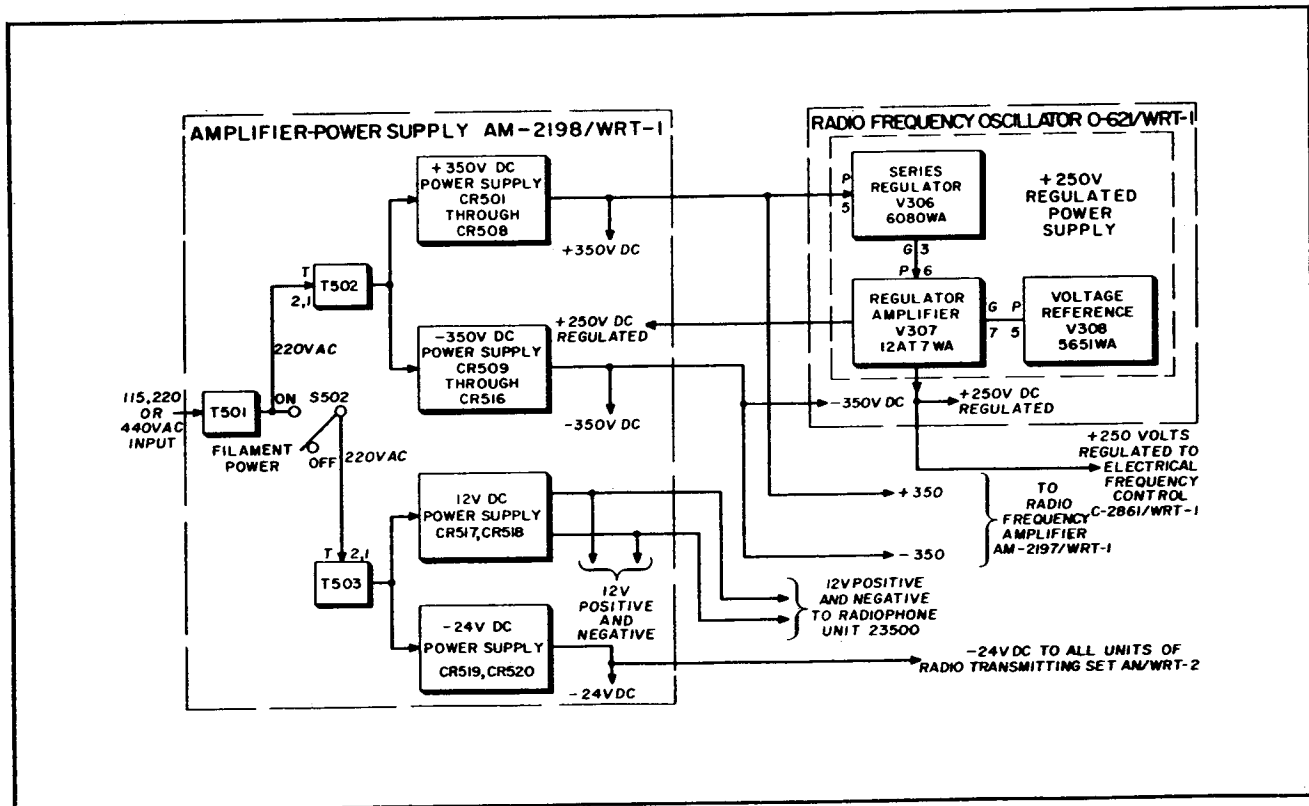

Figure 4-23. Low Voltage Power Supply, Functional Block Diagram
(1) The low voltage supply functional section provides all of the unregulated and regulated d-c voltages (excluding the power amplifier plate voltage) which are needed for proper operation of Radio Transmitting Set AN/WRT-1. A functional block diagram of the low voltage supply section is shown in figure 4-23.
(2) As shown in figure 4-23, the circuits of the +350, -350, -24, and 12-volt power supplies are located in the drawer containing Amplifier-Power Supply AM-2198/WRT-1. The circuits of the +250-volt regulator are located in the drawer containing Radio Frequency Oscillator O-621/WRT-1.
(3) The primary power input of 115, 220, or 440 volts a-c (determined by the ship supply) is applied to the primary winding of transformer T501 as shown in figure 4-23. The output of T501 is applied to the primary of T503 through FILAMENT POWER switch S502 (located on the front panel of Amplifier-Power Supply AM-2198/WRT-1). The output of T501 is also applied to the primary of T502. The +350 and
—350-volt supplies consist of diode bridge rectifiers and the output voltage of the supplies are distributed as indicated in figure 4-23. An electron-tube regulator consisting of V306, V307, and V308, receives an input from the +350-volt supply and provides a regulated output of +250-volts which is distributed as indicated in figure 4-23. The —24-volt supply consists of two diodes in a full-wave configuration and the output voltage is distributed to all units of Radio Transmitting Set AN/WRT-1 for application to control relays and indicating lamps. The 12-volt supply is a full-wave diode rectifier with an ungrounded output and is used exclusively for the microphone circuit of the telephone handset or remote Radiophone Unit 23500.